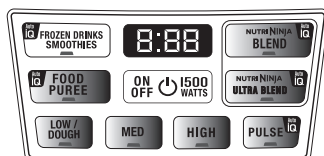

Fig. 1
**NOTE:** Nutri Ninja® | Ninja® Blender System with Auto-iQ™ Technology can sense which jar is on the motor base. The function lights will illuminate depending on which jar is placed on the motor base. (Fig. 1)